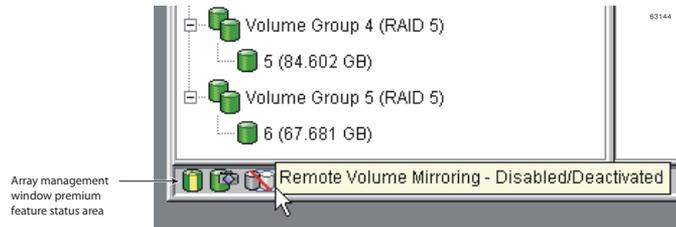

Figure 3-32 Remote Volume Mirroring Feature Status
The current status can be determined by hovering the mouse pointer over the Remote Volume Mirroring feature icon in the premium feature status area of the **Array Management** window, as shown in Figure 3-32.
- **Disabled/Deactivated** – No functions of the Remote Volume Mirroring feature can be performed. Full Remote Volume Mirroring feature functionality is not available until the feature is enabled and activated. The icon for this state is displayed in the premium feature status area as a cylinder with a mirrored reflection. The icon has a red slash through it to show it is disabled, and is greyed out to show it is deactivated. An example of this state is illustrated in Figure 3-32. For more information about enabling the Remote Volume Mirroring feature, see “Enabling the Remote Volume Mirroring Feature” on page 136. To activate the feature, see “Activating the Remote Volume Mirroring Feature” on page 137.